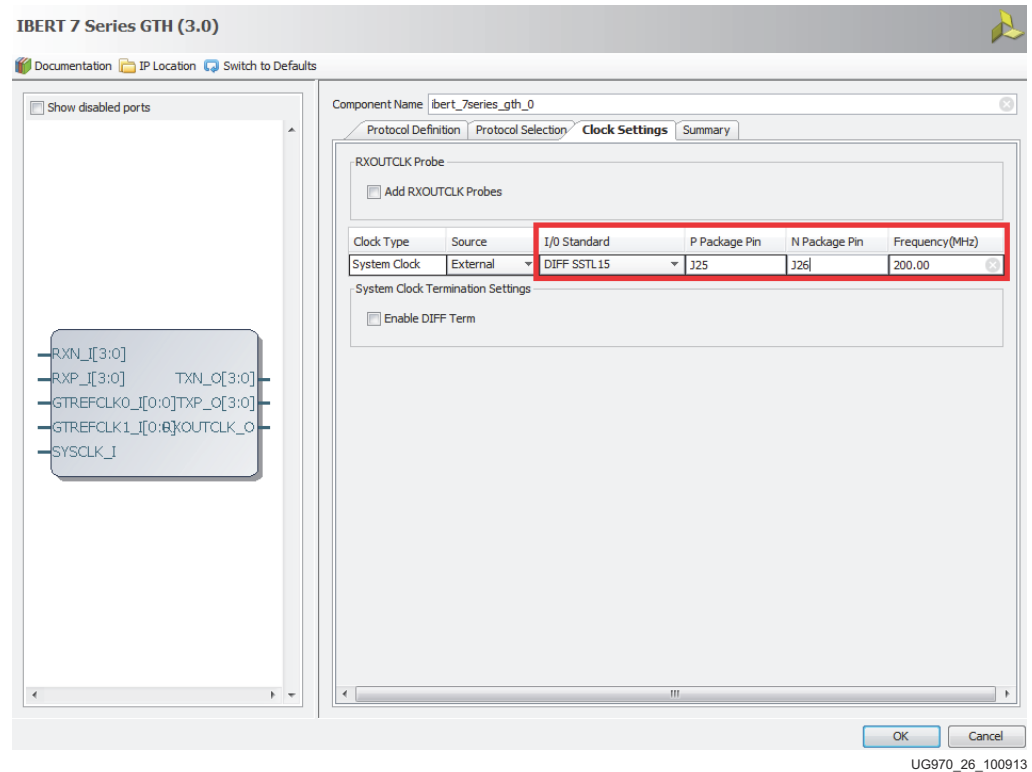

Figure 1-26: Customize IP - Clock Settings
9. In the Clock Settings tab, select **DIFF SSTL15** for the I/O Standard, enter **J25** for P Package Pin and **J26** for N Package Pin (the FPGA pins that the system clock connects to), and ensure the **Frequency** is set to **200.00** (Figure 1-26). Press **OK**.